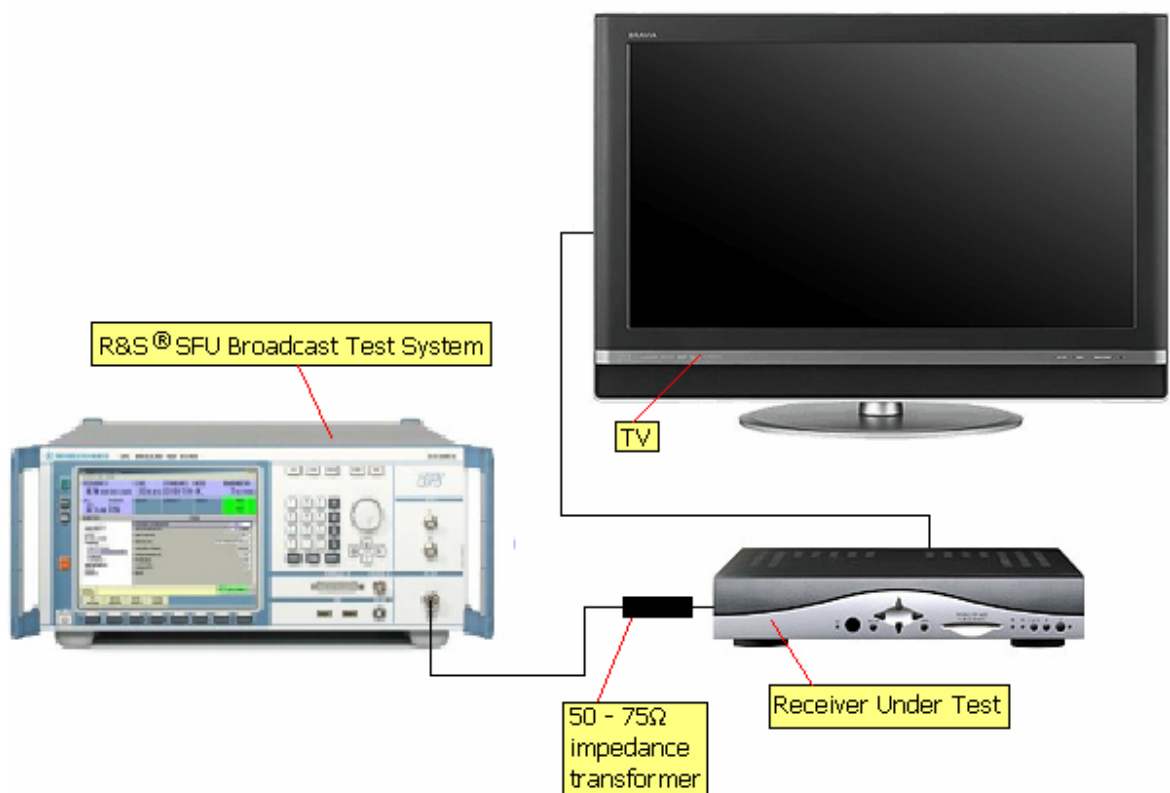

Figure 1 "Receiver sensitivity" test set-up
- Maintain the basic test set-up of figure 1.